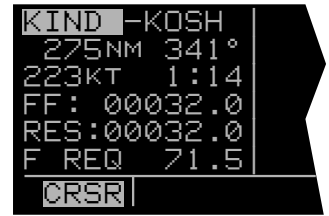

Figure 5-13
2. Press the left **CRSR** to turn on the left cursor function. The cursor will be located over the “from” waypoint identifier (figure 5-13).